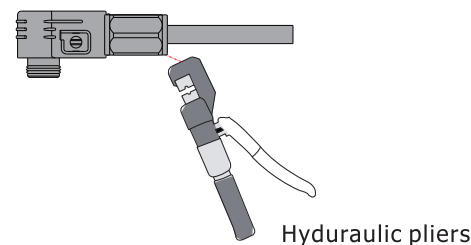

Figure 4.2-5 Crimp the metal terminal
Step3: Crimp the metal terminal, as shown in Figure 4.2-5.